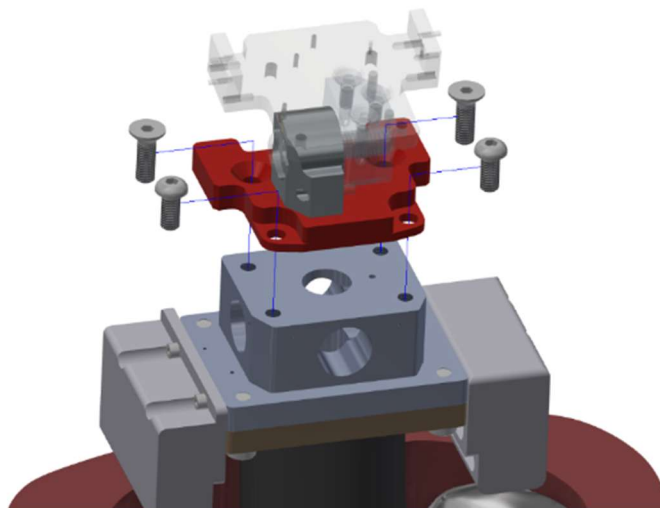

Figure 6-39. Secure lumbar spine pitch change assembly (474-3220-A) to thoracic spine load cell (SA572-S107)
- 6.3.9 Attach the Lumbar Posture Adjustment Base Plate (474-3071-A) to the Thoracic Spine Load Cell (SA572-S107) using two M8 X 1.25 X 25 LG. FHCS and two M8 X 1.25 X 18 BHCS (Figure 6-39). Orient the head of the M12 X 1.75 X 45 mm SHCS adjustment bolt in the pitch change mechanism to the right-hand side of the spine assembly (474-3200-A). Install the two rear bolts helps to avoid interference with the Lumbar Posture Gear Assembly (474-3068-A). After achieving the desired lumbar angle, re-tighten the M12 adjustment bolt torque to 68.0 N-m (50.5 ft-lbf). For detailed instructions to set the lumbar angle, see Section 6.6.